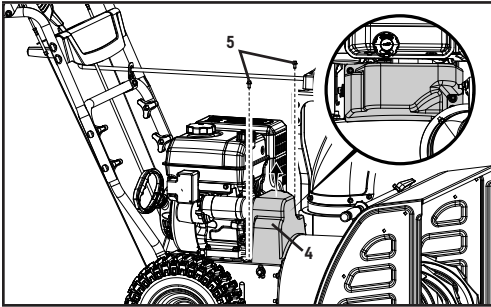

Figure 43
10. Install the plastic belt cover (4) using two M6 × 16 bolts (5) set aside from an earlier step. Torque until snug. Do not overtighten or you risk damaging the plastic belt cover (Fig. 43).